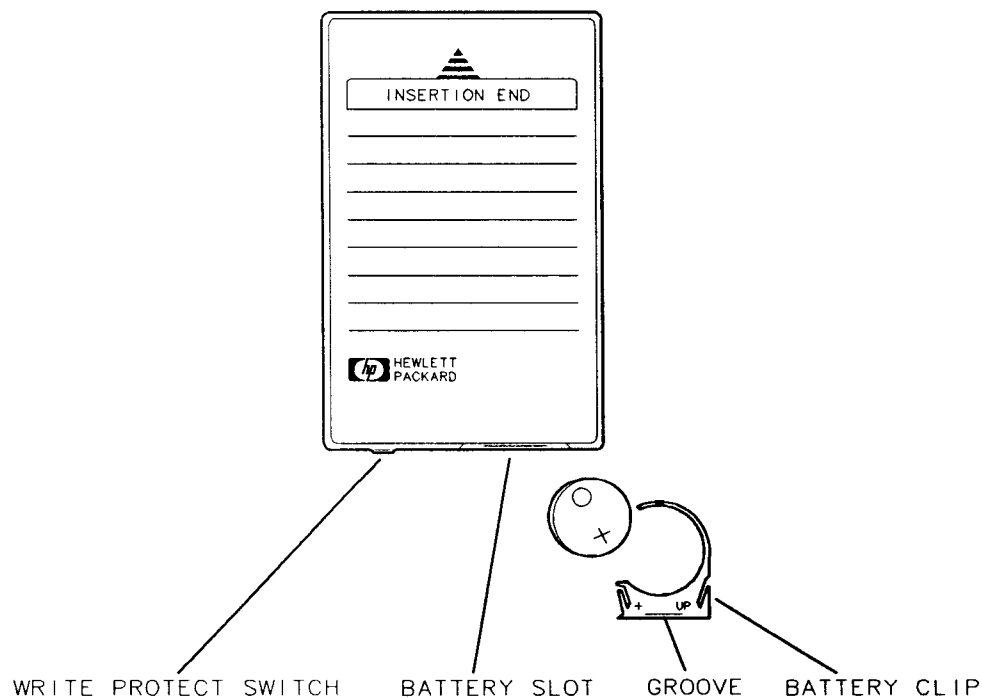

Figure 5-3. Memory Card Battery Replacement
1. Locate the groove along the edge of the battery clip. See Figure 5-3.
4. Insert the battery clip into the memory card, holding the clip as oriented in Figure 5-3 (face the "open" edge of the clip toward the write-protect switch on the memory card).